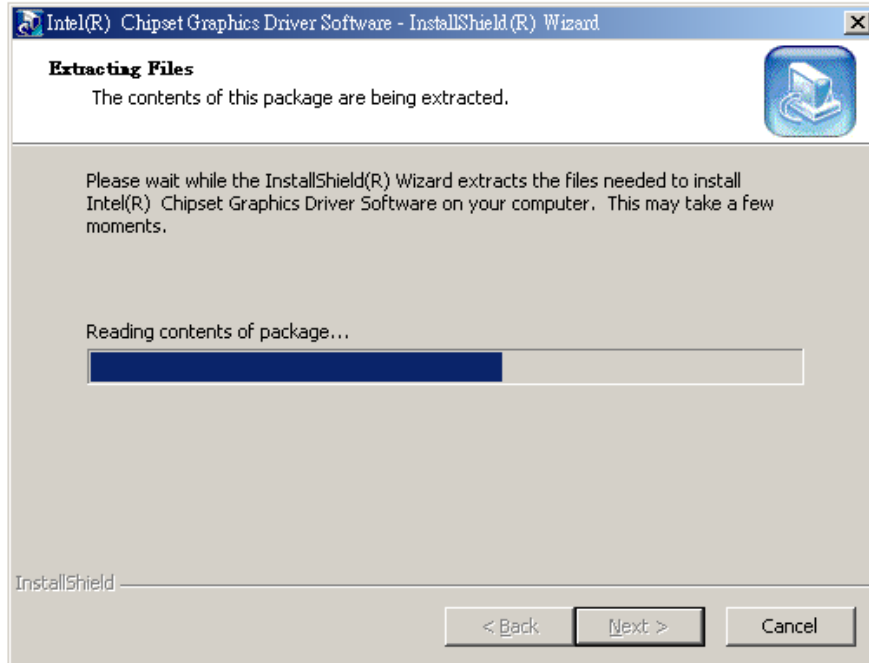

Figure 6-7: Preparing Setup Screen
Step 4: The Preparing Setup window appears next (**Figure 6-7**).